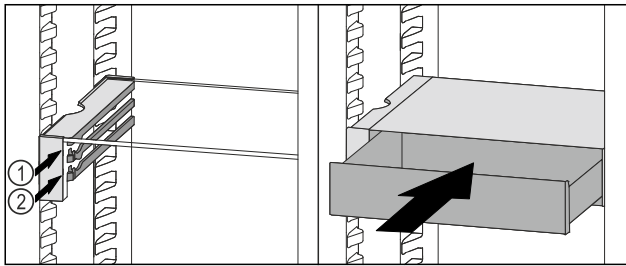

Fig. 136
- ▶ Place the VarioSafe drawer behind the stoppers on desired rib Fig. 136 (1) or Fig. 136 (2).